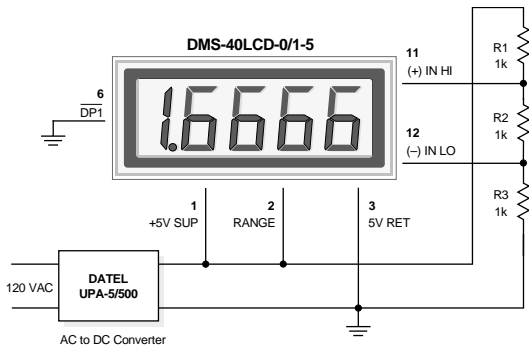

Figure 3. Differential Input Configuration (5V-Powered Models)
**2. Differential Input Configurations:** Differential measurements can be made with either 5V-powered or 9V-powered meters. Figure 3, though not a practical real-world application, uses a voltage divider to demonstrate the concept of a differential input signal. Be careful not to exceed the ±2V common mode voltage limitation for 5V-powered meters.